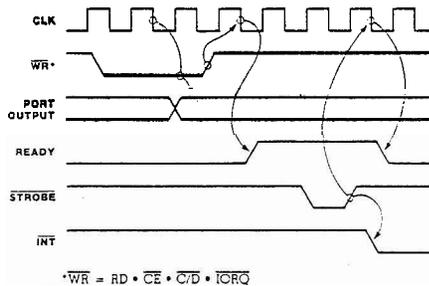

Figure 14. Mode 0 Output Timing
**Output Mode (Mode 0).** An output cycle (Figure 14) is always started by the execution of an output instruction by the CPU. The WR\* pulse from the CPU latches the data from the CPU data bus into the selected port's output register. The WR\* pulse sets the Ready flag after a Low-going edge of CLK, indicating data is available. Ready stays active until the positive edge of the strobe line is received, indicating that data was taken by the peripheral. The positive edge of the strobe pulse generates an INT if the interrupt enable flip-flop has been set and if this device has the highest priority.